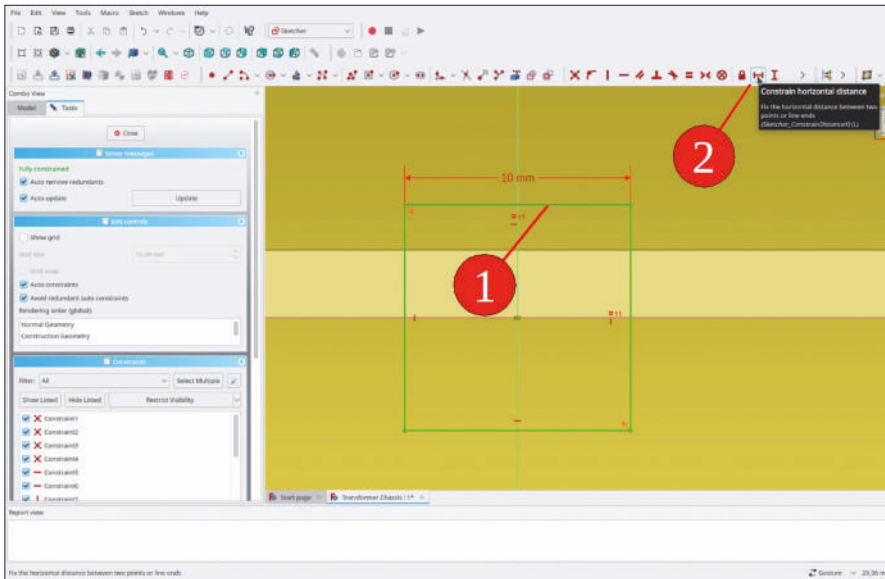

Figure 9-60
28. Click on one horizontal side of the rectangle. Click on the 'Constrain horizontal distance' tool button. Set the length to 10 mm (Figure 9-60). Close the sketcher.